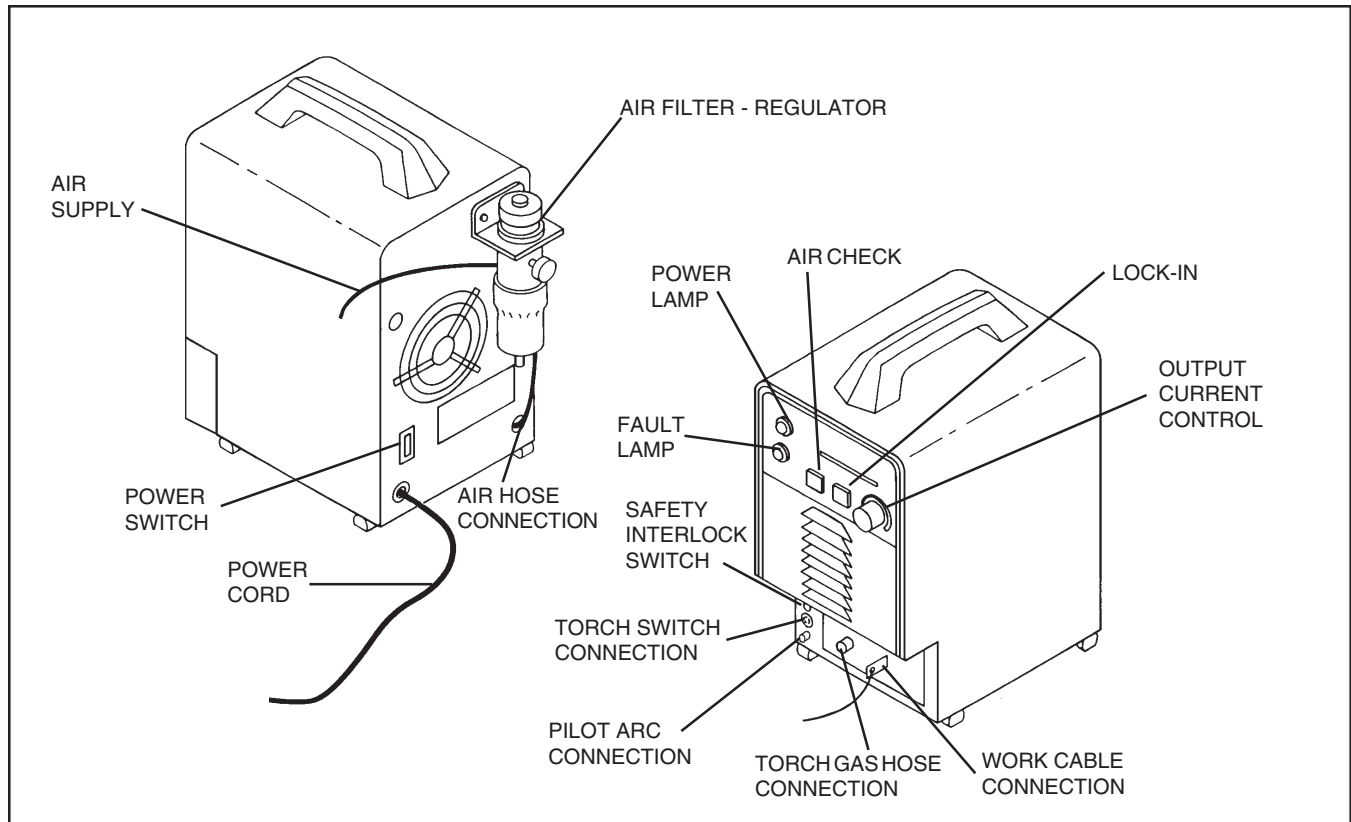

Figure 3-1. PCM-750i Controls
3.2 PCM-750i CONTROLS (FIGURE 3-1)